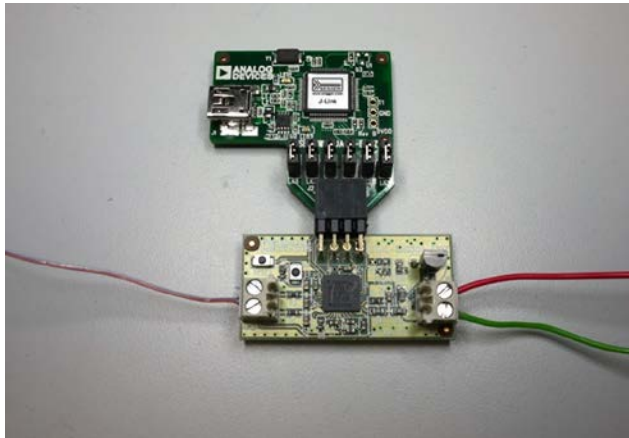

Figure 3. EVAL-CN0300-EB1Z Board Connected to the Analog Devices J-Link OB Emulator
- The J1 connector, an 8-pin dual-in-line connector, connects to the Analog Devices J-Link OB emulator that is provided with the CN0300 support hardware. This allows programming and debugging of this application board. See Figure 3.